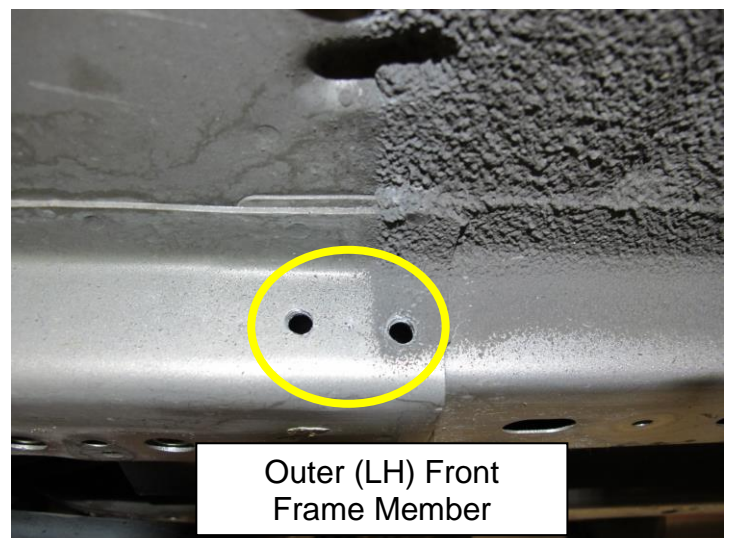

Figure 8
8. Using the same **17/64** drill bit, locate the pre-marked/indented punch locations in the two spot welds, drill a hole in the **outer** (LH) front frame member spot welds (Figure 8).